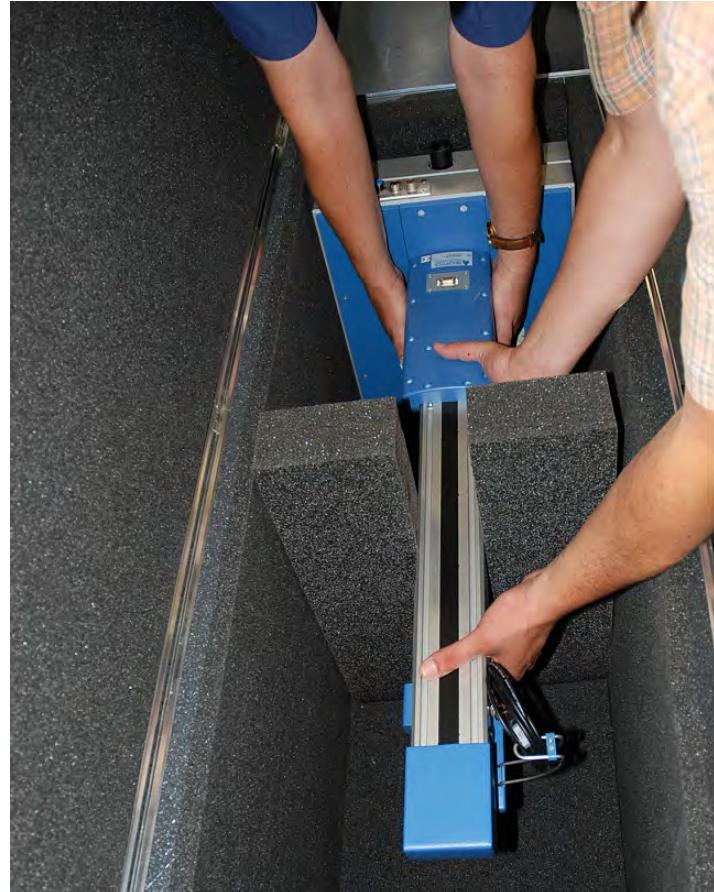

Fig. 5-3
- Reach under the base of the measurement system as shown in Fig. 5-3 and pull it out of the packaging.